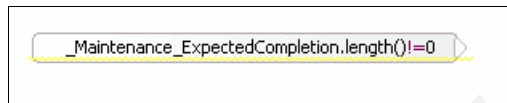

Figure 3-20 Check date exists
23. Using the visual snippet editor, we check that the ExpectedCompletion has a value and therefore requires transformation (that is, as it is a string, having a length that is not equal to zero). See Figure 3-20.